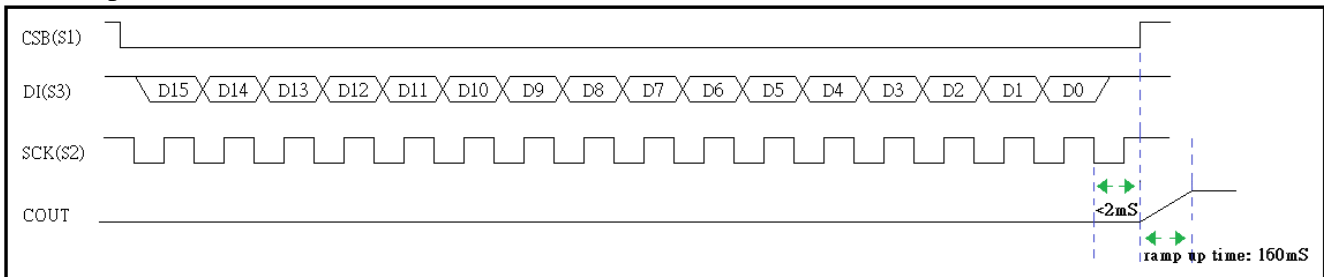

Fig. 12 Power-Up command timing
- a. Command timing reference Fig. 12 Power-Up command timing.